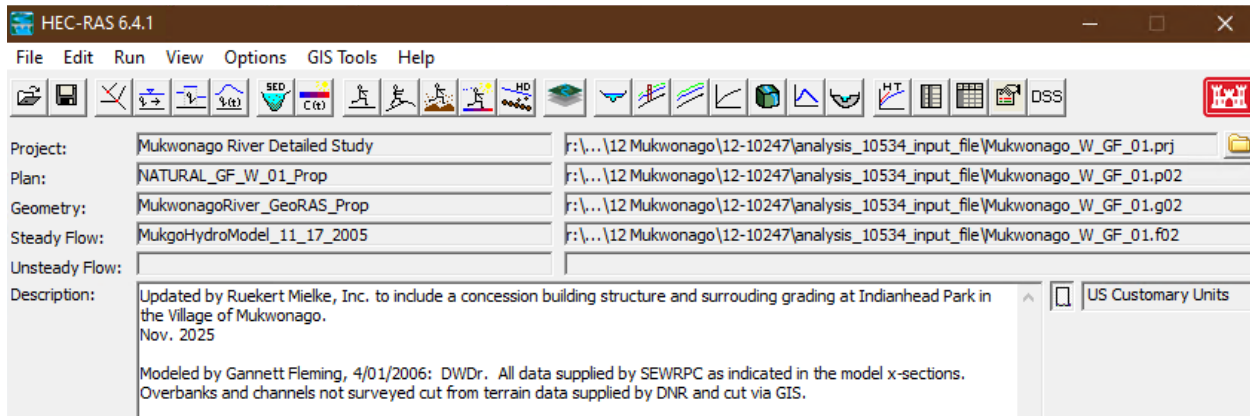

Figure 1. Model Project
The focus of the modifications to the HEC-RAS model along the Mukwonago River is between River Station (RS) 12152 and RS 11990. The HEC-RAS model was obtained from WDNR. This model is called Mukwonago River Detailed Study as shown in Figure 1.